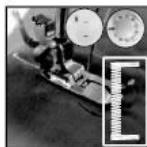

Fig.19
- Choose the stitch pattern #8, then turn on switch and sew 5-6 stitch in low speed. Then turn off switch (Fig. 19).